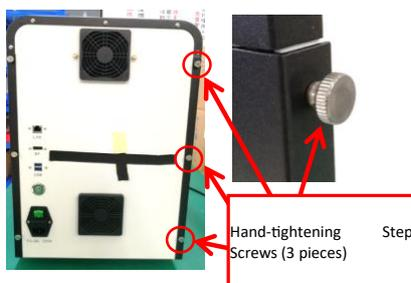

Figure 1
2. **Remove Left Panel:** After removing the three hand-tightening step screws from the left panel, slide the left panel off from the locking position on the cover of the main unit (as shown in Figure 1).